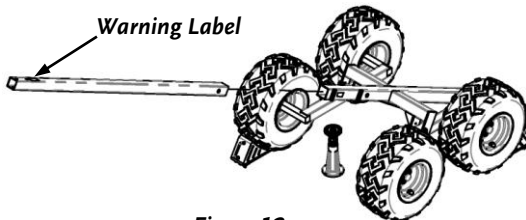

Figure 12
8. Slide the Tow Bar (with the Warning Label on top) into the Main Frame, lining up the Mounting Hole with the hole in the Main Frame (Figure 12). Gently allow the weight of the Tow Bar to force the front of the Main Frame down onto the Jack Stand.